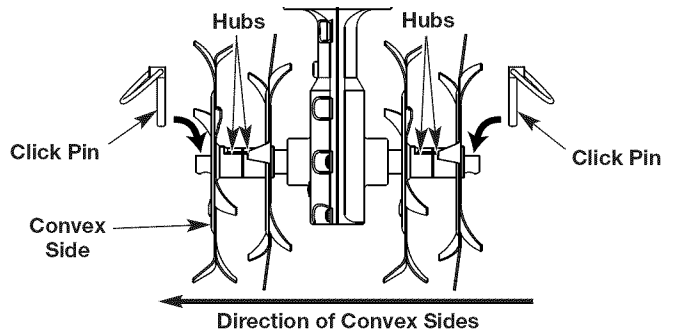

Fig. 9
3. Remove the click pins from each end of the tine shaft (Fig. 9). Slide the tines off the shaft.
5. Slide on the new tines with the hubs facing in towards each other (Fig. 9).
NOTE: Each tine has a convex side. Make sure that all of the convex sides are facing as shown in Figure 9.
6. Secure the new tines to the shaft with click pins (Fig. 9).